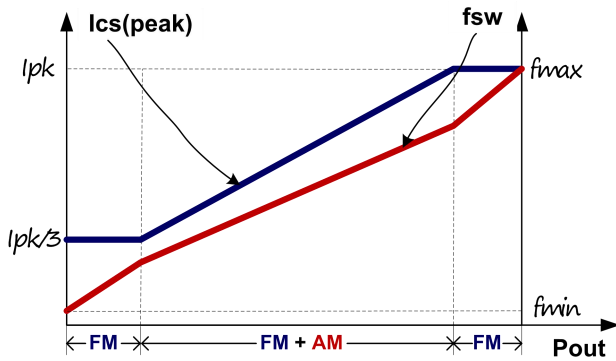

Fig.4
To meet the tight requirement of averaged system efficiency and no load power consumption, a hybrid of frequency modulation (FM) and amplitude modulation (AM) is adopted in DP2525E which is shown in the Fig 4.